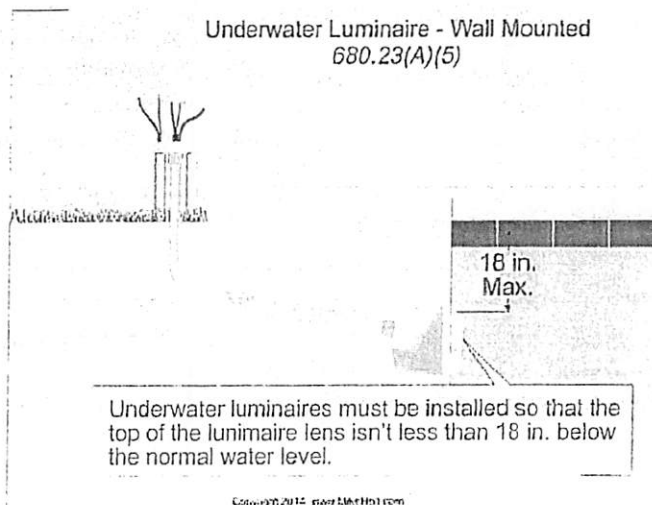

Figure 680-30
(5) **Wall-Mounted Luminaires.** Underwater luminaires must be installed so that the top of the luminaire lens isn't less than 18 in. below the normal water level. Figure 680-30